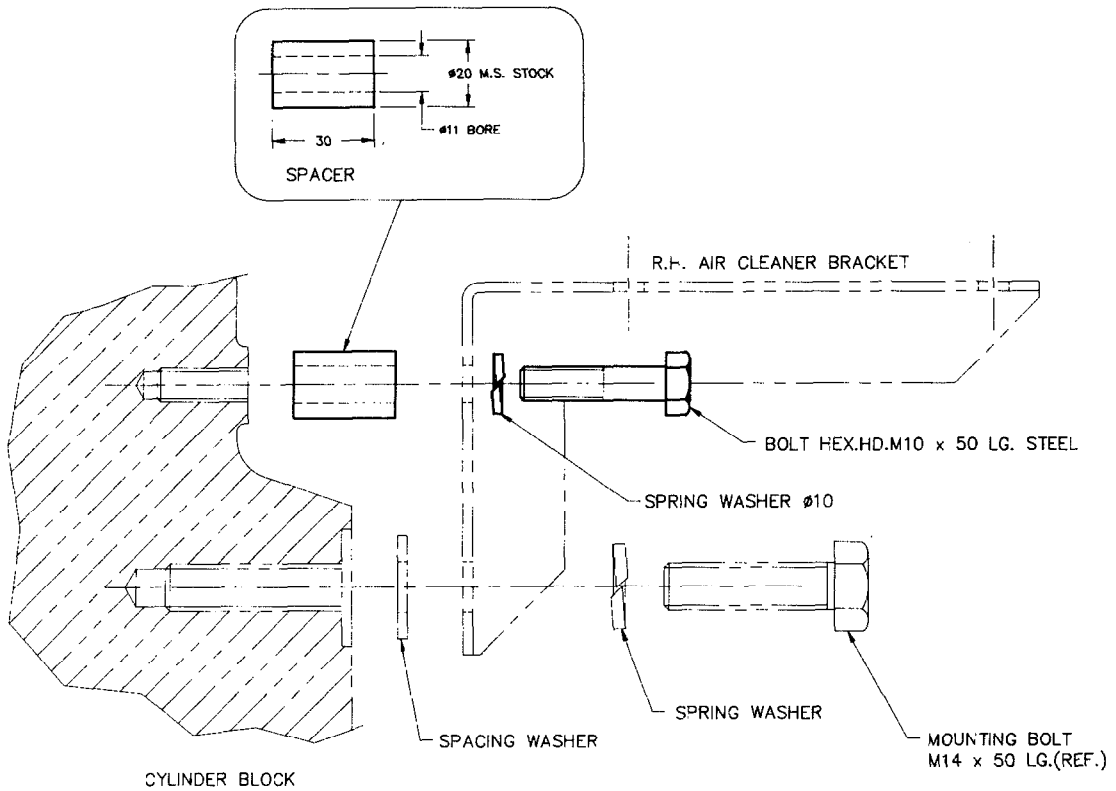

Figure 1a - RH Air Cleaner Bracket Mounting (4x4 & 6x6)
- g. Manufacture spacers for brackets as shown in Figures 1a and 1b using Item 2, Table 1.
4x4 variants will require two spacers as shown in Figure 1a.
6x6 variants will require one of each of the spacers shown in Figures 1a and 1b.
- k. On 4x4 and 6x6 variants fit 30 mm spacer between right hand air cleaner bracket and cylinder block using Items 1 and 3, Table 1 as shown in Figure 1a.